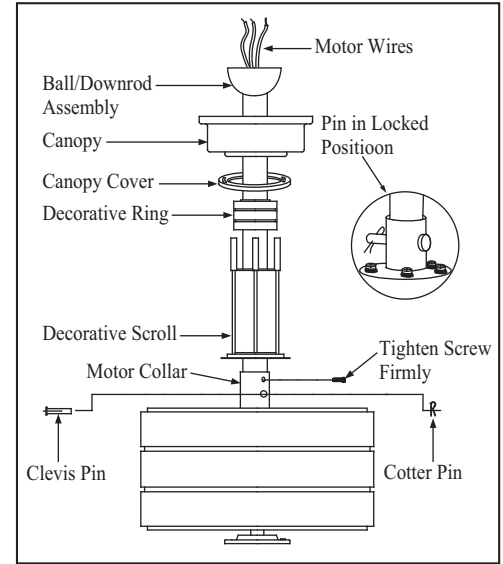

Figure 6
3. Remove the clevis pin, cotter pin and set screws from the top of the motor assembly. (Figure 6)
4. Route wires exiting from the top of the fan motor through the decorative scroll, decorative ring, canopy cover, canopy and then through the ball/ downrod. (Figure 6)
5. Align the holes at the bottom of the downrod with the holes in the coupling on top of the motor housing (Figure 6). Carefully insert the clevis pin through the holes in the collar and downrod. Be careful not to jam the clevis pin against the wiring inside the downrod. Insert the cotter pin through the hole near the end of the clevis pin until it snaps into its locked position, as noted in the circle inset of Fig. 6.
6. Tighten two set screws at top of the fan motor collar firmly and evenly. (Fig. 6)